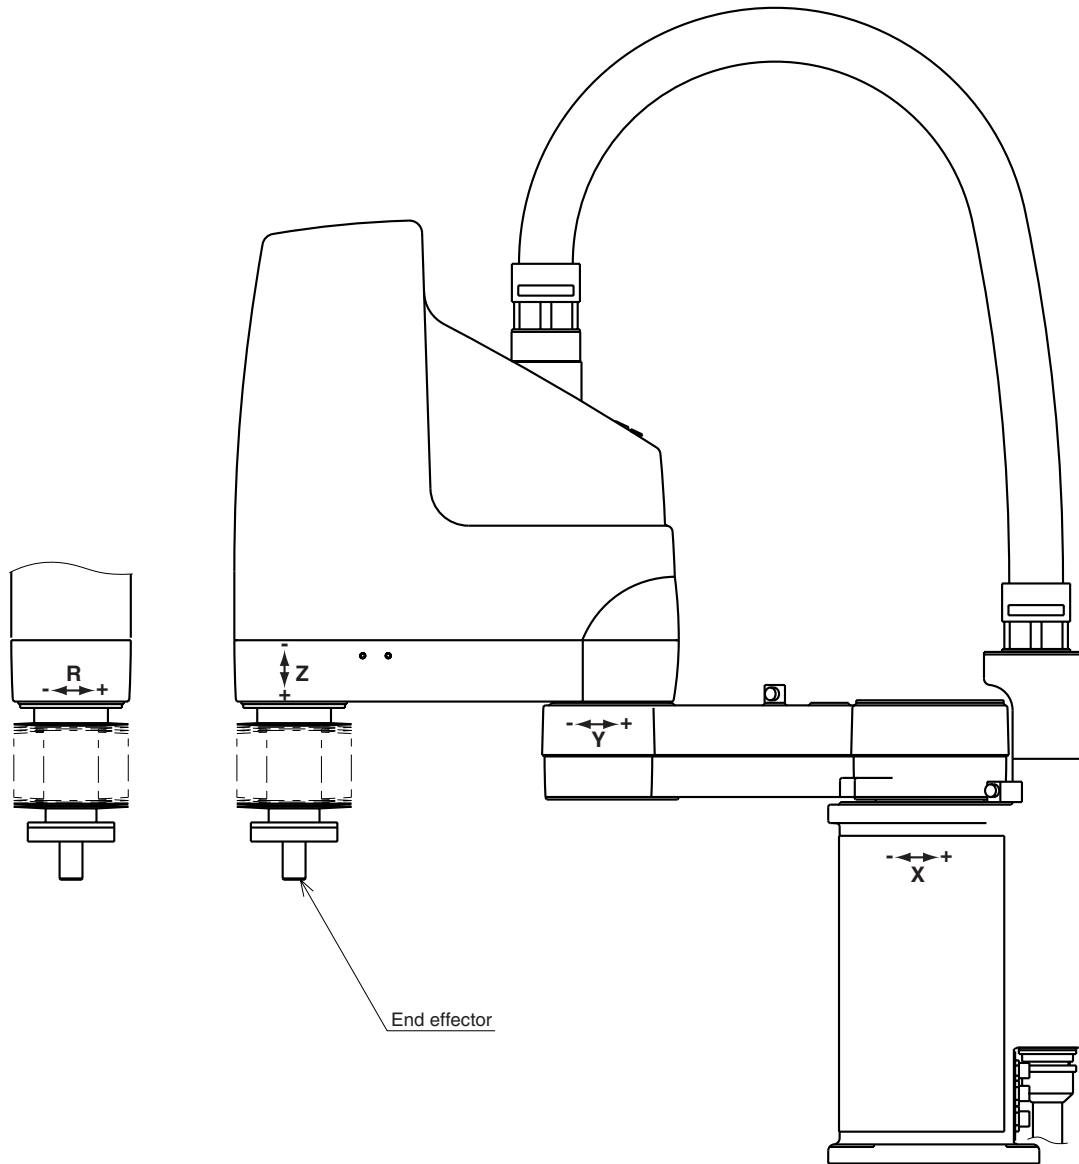

Fig. 4-6 Positions for affixing the stickers (R6YXC500)
- 6) Being careful not to move the origin positions, attach stickers at conspicuous points on matching sides of components such as the robot arm of each axis, base (robot pedestal) and end effector. Affix stickers nearby showing the axis name and direction of movement. Use a cloth moistened with alcohol to remove grease from the surface where you will affix the stickers. After the surface is dry, affix the stickers securely. (See Fig. 4-6)